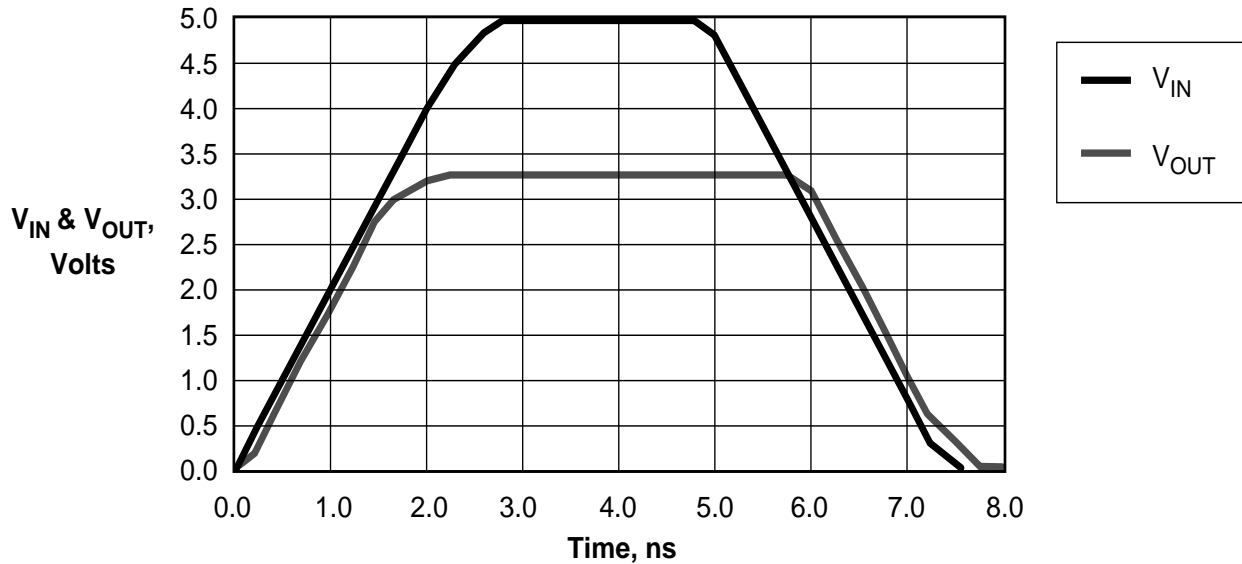

Figure 7. Input to Output Delay of QS3861 at  $V_{CC} = 4.3V$
5.0V inputs respectively. Figure 7 shows the input and output waveforms for a 5V pulse driving a standard 50pF 500Ω load through the QS3861.